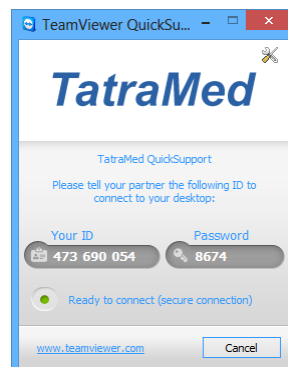

Figure 418 – TeamViewer QuickSupport with your ID and password
2. Be prepared to provide your ID and password, which are displayed in the TeamViewer QuickSupport application (see Figure 418), and call the TatraMed customer support center (see 26 Contact).